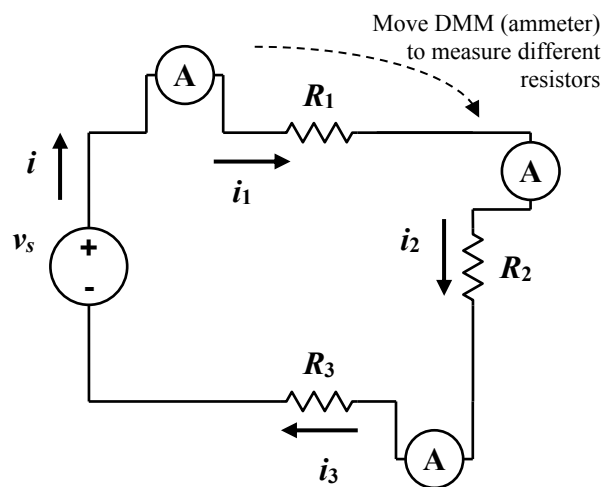

Figure 2.3d
11. Measure the current i_1 through R_1 (**Figure 2.3d**). Record as $i_{1,m}$ in **Table 2-1**. Do not forget to reconfigure the circuit and DMM to measure current. Place the ammeter in front of R_1 .